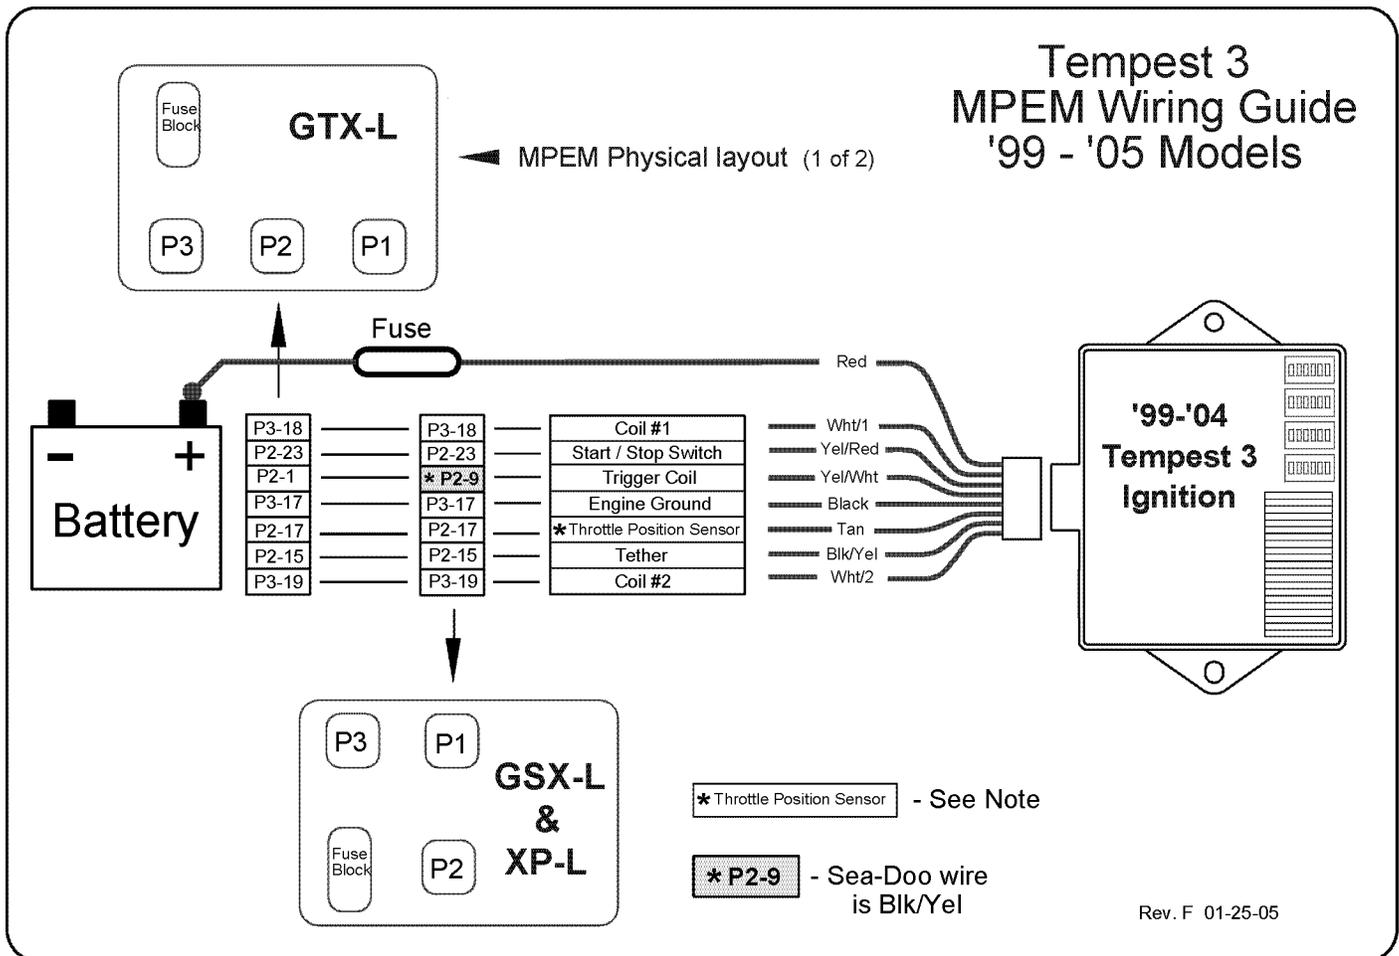

Figure 1
1. With the help of the "MPEM Wiring Guide" in Figure 1, locate the model of your boat.
3. The picture of your model MPEM points to a chart of numbers in the center of Figure 1. The chart indicates where each wire from the Tempest Ignition attaches to your MPEM. Example: For an XP-L, the Black wire attaches to Connector P3, pin # 17.
- Note the designation of connector (P2) on your model MPEM (see Figure 1). Locate the two latches (top & bottom) on the connector and squeeze them at the same time to release the latches, then pull to disconnect it from the MPEM.
- Referring to the Wiring Chart in Figure 1, note that 4 wires from the T3 Ignition attach to 4 wires on this MPEM P2 connector.
- First, read the following section **Wire Connections Using the Blue T-Splice**. Then, using Figures 1 & 3 as guides, locate and attach the wires in the following order.
6. Note the designation of the lower right connector (P3) on your model MPEM (see Figure 1). Locate the two latches (top & bottom) on the connector and squeeze them at the same time to release the latches, then pull to disconnect it from the MPEM.
Referring to the Wiring Chart in Figure 1, note that 3 wires from the T3 Ignition attach to 3 wires on this MPEM P3 connector.
2. First, read the following section **Wire Connections Using the Blue T-Splice**. Then, using Figure 1 & 3 as guides, locate and attach the wires in the following order.
4. Refer to Figure 1 to determine the location of the Sea-Doo (White/2) wire. Follow steps 1, 2 & 3 above to complete (White/2) wire installation.